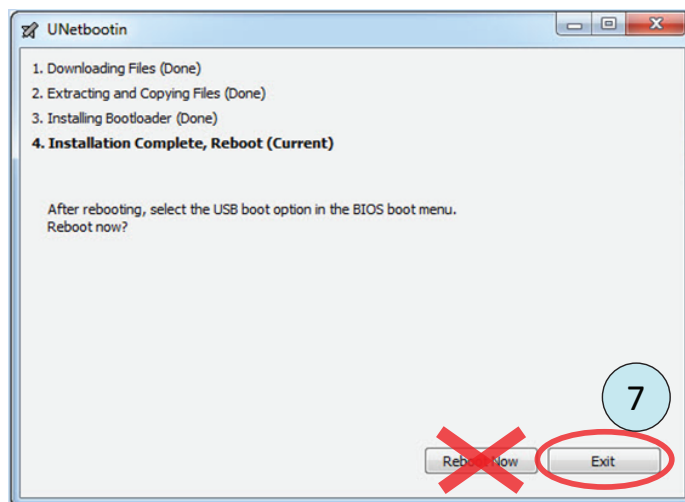

Figure E12. UNETBOOTIN installation complete window.
7) When the copy/burn process is complete, the window in figure E12 will be displayed. **WARNING: DO NOT CLICK THE 'Reboot Now' BUTTON!** Click the **Exit** button or the red X in the upper corner of the window.